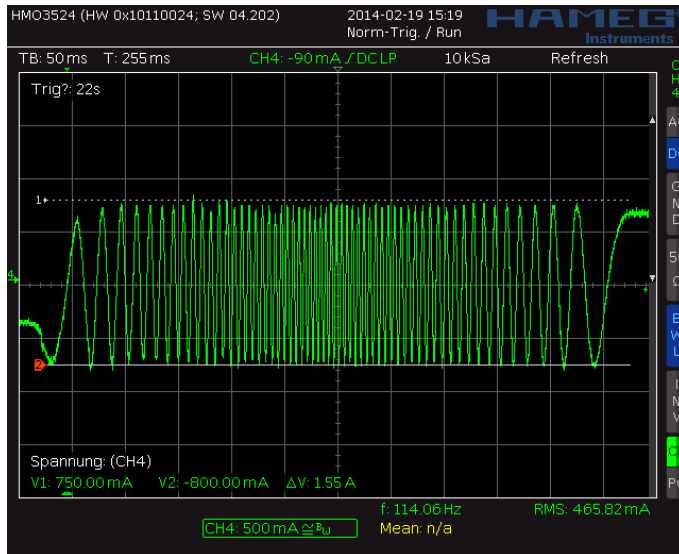
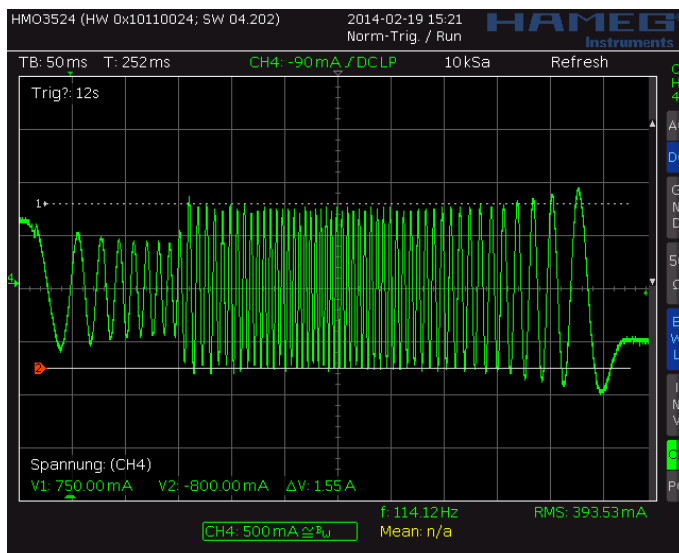
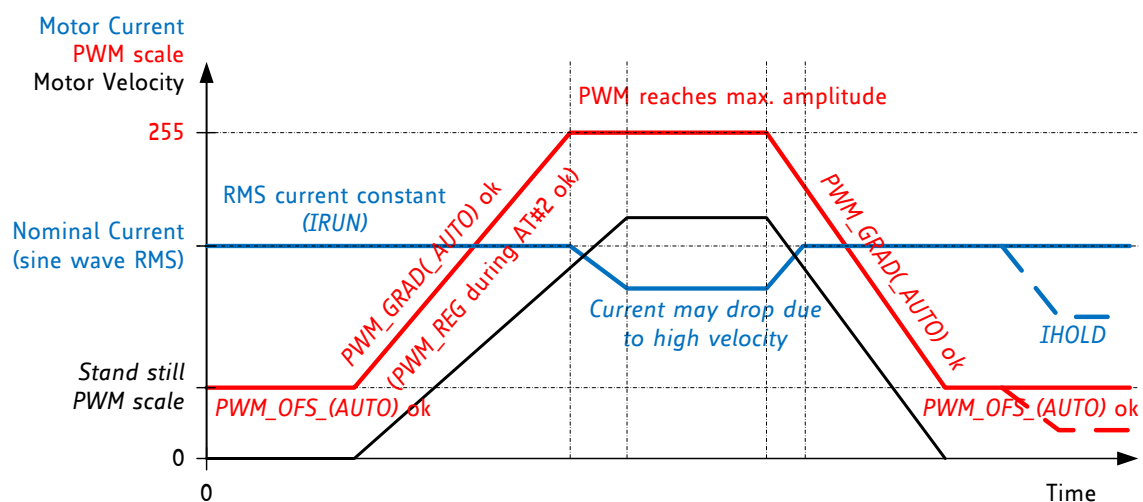

Figure 6.3 Scope shot: good setting for PWM\_REG
Figure 6.4 Scope shot: too small setting for PWM\_REG during AT#2
Figure 6.5 Successfully determined PWM\_GRAD(AUTO) and PWM\_OFs(AUTO)
In StealthChop voltage PWM mode, the autoscaling function (*pwm\_autoscale* = 1, *pwm\_auto\_grad* = 1) regulates the motor current to the desired current setting. Automatic scaling is used as part of the automatic tuning process (AT), and for subsequent tracking of changes within the motor parameters. The driver measures the motor current during the chopper on time and uses a proportional regulator to regulate *PWM\_SCALE\_AUTO* in order match the motor current to the target current. *PWM\_REG* is the proportionality coefficient for this regulator. Basically, the proportionality coefficient should be as small as possible in order to get a stable and soft regulation behavior, but it must be large enough to allow the driver to quickly react to changes caused by variation of the motor target current (e.g. change of *VREF*). During initial tuning step AT#2, *PWM\_REG* also compensates for the change of motor velocity. Therefore, a high acceleration during AT#2 will require a higher setting of *PWM\_REG*. With careful selection of homing velocity and acceleration, a minimum setting of the regulation gradient often is sufficient (*PWM\_REG*=1). *PWM\_REG* setting should be optimized for the fastest required acceleration and deceleration ramp (compare Figure 6.3 and Figure 6.4). The quality of the setting *PWM\_REG* in phase AT#2 and the finished automatic tuning procedure (or non-automatic settings for *PWM\_OFS* and *PWM\_GRAD*) can be examined when monitoring motor current during an acceleration phase Figure 6.5.